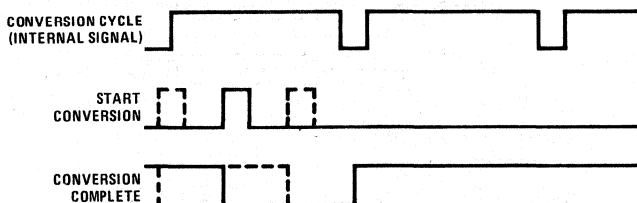

FIGURE 3. Conversion Cycle Timing Diagram Operating with Start Conversion Input
*Figure 3* gives the operation using the Start Conversion input. It is important to note that the Start Conversion input and Conversion Complete output do not influence the actual analog-to-digital conversion in any way. Internally the ADC3511 and ADC3711 are always continuously converting the analog voltage present at their inputs. The Start Conversion input is used to control the transfer of information from the internal counter to the digit latches.
An RS latch on the Start Conversion input allows a broad range of input pulse widths to be used on this signal. As shown in *Figure 3*, the Conversion Complete output goes to a logic "0" on the rising edge of the Start Conversion pulse and goes to a logic "1" some time later when the new conversion is transferred from the internal counter to the display latch. Since the Start Conversion pulse can occur at any time during the conversion cycle, the amount of time from Start Conversion to Conversion Complete will vary. The maximum time is  $64,512 \times 1/f_{IN}$  ( $129,024 \times 1/f_{IN}$  for the ADC3711) and the minimum time is  $256 \times 1/f_{IN}$  ( $512 \times 1/f_{IN}$  for the ADC3711).